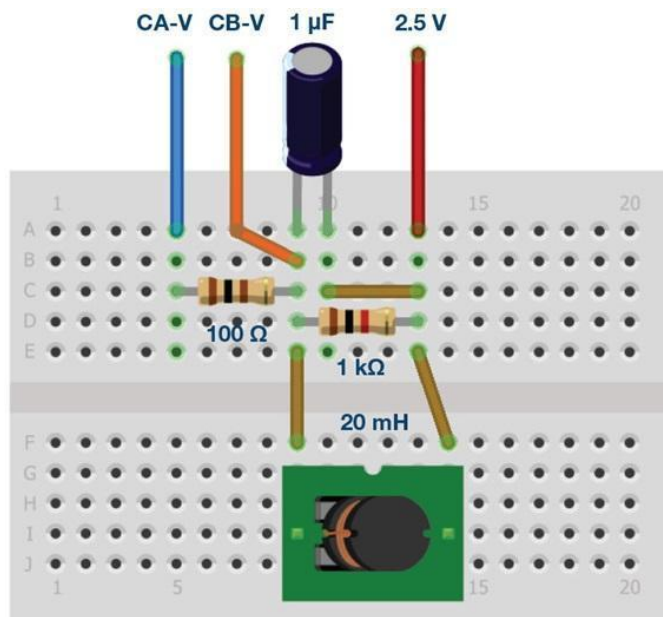

Figure 5. Parallel resonance circuit with a series resistance connected to a source.
1. Set up the RLC circuit as shown in Figure 5 on your solderless breadboard, with the component values $R_S = 100\ \Omega$, $R_1 = 1\ \text{k}\Omega$, $C_1 = 1\ \mu\text{F}$, and $L_1 = 20\ \text{mH}$.